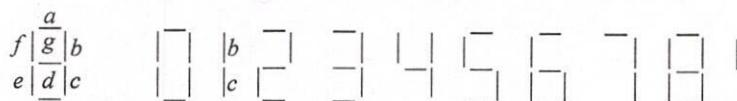

Figure B1
4. A BCD-to-seven-segment decoder is a combinational circuit that converts a decimal digit in BCD to an appropriate code for the selection of segments in an indicator used to display the decimal digit in a familiar form. The seven outputs of the decoder (a, b, c, d, e, f, g) select the corresponding segments in the display, as shown in figure (Fig. B1) below. The numeric display chosen to represent the decimal digit is shown in the figure. Using truth tables and Karnaugh maps design the BCD-to-seven-segment decoder circuit to display only the prime numbers using a minimum number of gates.